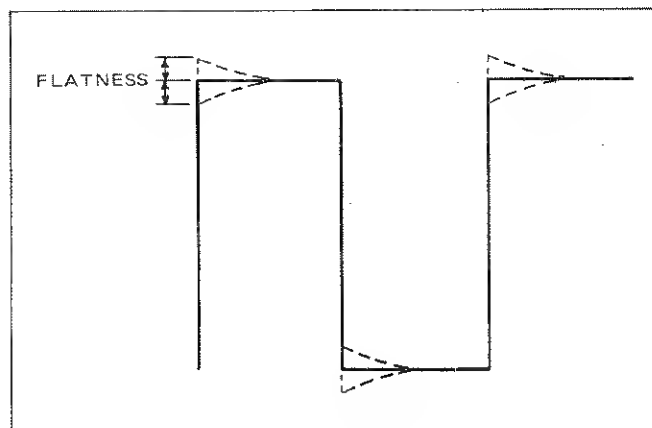

Figure 5.4 - Square Wave Signal
- b. With the oscilloscope, monitor pin 8 of U3 and adjust C6 (both on the channel A signal conditioner) for a waveform flatness within ± 40 mV. Refer to waveform shown in figure 5.4.